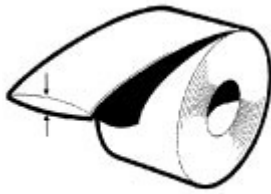

Figure 7
3. Surface-to-surface thickness differential, or crown (see **Figure 7**). This is a common problem for slitters, and it will be discussed in Part IV of this article. Flatteners or levelers can't reduce crown significantly because their work rolls are offset. It takes a rolling mill with opposed rolls to do that. This article discusses the causes of crown, but not how to eliminate it.